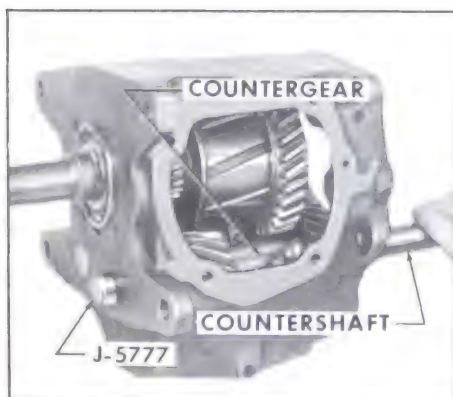

Figure 4-21—Removing Countershaft
7. Using Tool J-5777, remove the countershaft. Leaving the tool in place, lower the countergear to the bottom of the case. See Figure 4-21.